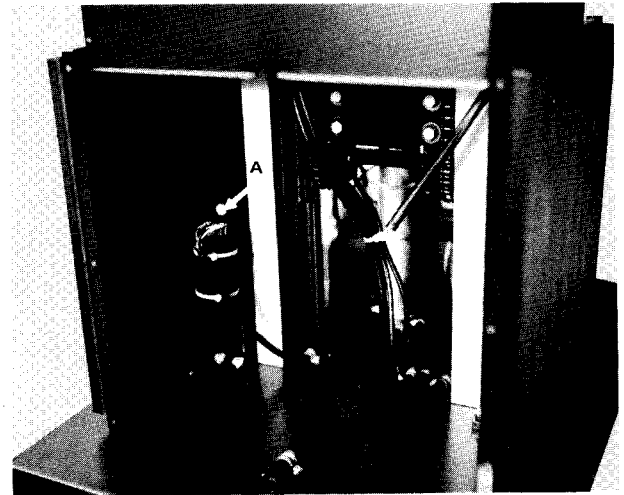

Fig. 36
- 3) The capacitor is located on the left hand support channel. Fig. 36.
- 5) Remove the bolt Item A, Fig. 36 with 9/16” socket wrench to remove capacitor holder.